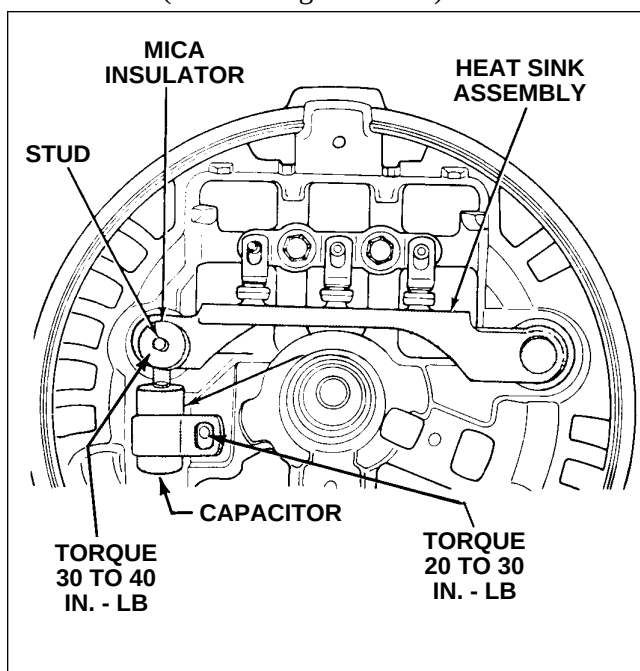

Figure 24-38. Installation of Chrysler Alternator Capacitor
- k. Install positive heatsink nut and lockwasher, and tighten to a torque of 20 to 30 inch- pounds. (Refer to Figure 24-38.)